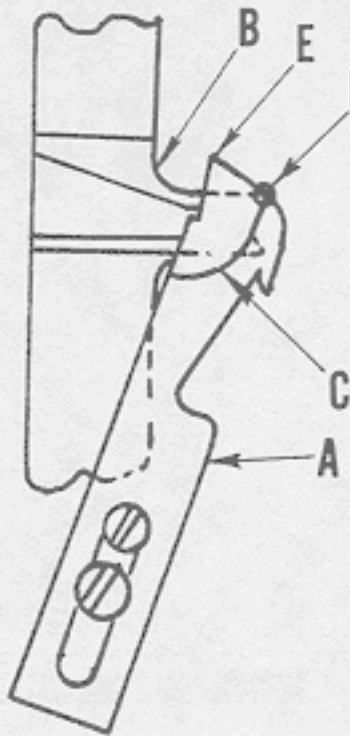
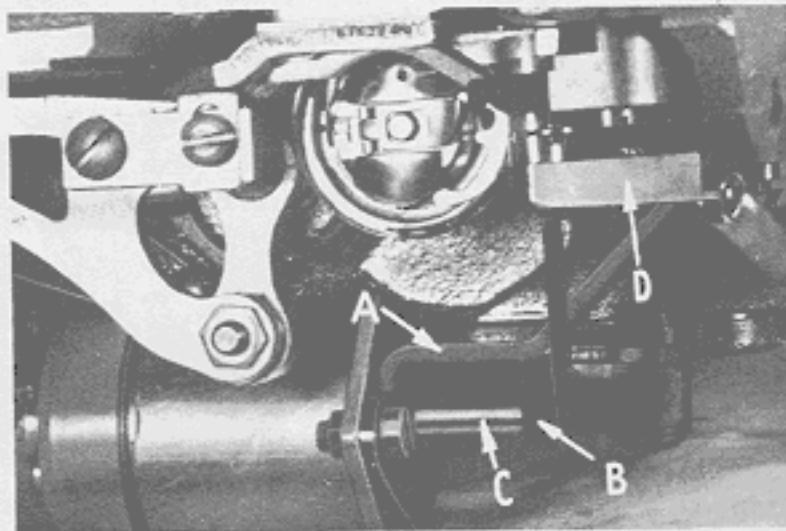
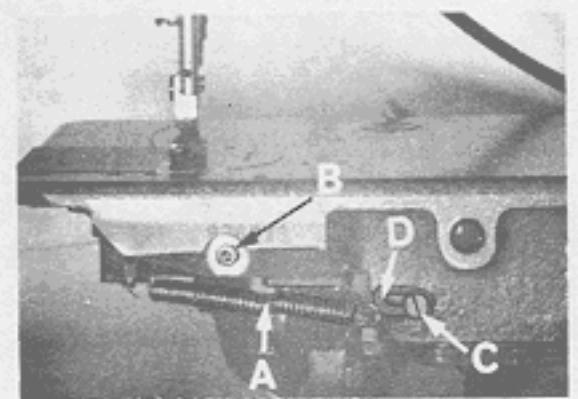

Fig. 33
Fig. 35
Fig. 36
The lower knife (A, Fig. 33) in its extreme left position should not extend beyond the left side of the arm of the positioning finger (B). As the lower knife moves to the right, the run out of the cutting edge (C) must coincide at a point of the positioning finger as indicated at point (D). To make these adjustments loosen screws (A, Fig. 34) and position knife.
4. Locate the cutting solenoid bracket (A, Fig. 35) as far forward as possible and parallel with the line of feed. With the cutting solenoid lever (B) contacting the cutting solenoid plunger (C), adjust the pivot release lever (D), so that there is a  $1/32$  inch clearance to be maintained when knife return spring (A, Fig. 36) is in position.
5. Adjust the lower knife stop screw (B, Fig. 36) so when the lower knife is in its extreme right hand position, the left corner (E, Fig. 33) is in line with the left side of the needle slot in the bobbin case holder.
7. Knife return spring (A, Fig. 36) to have proper tension to cut threads. To adjust tension of knife return spring loosen screw (C) and move tension spring bracket (D) to the right to increase tension or to the left to decrease the tension.